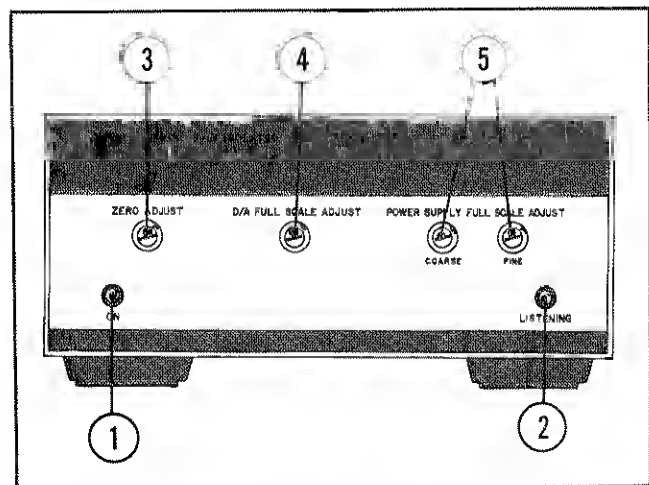

Figure 3-1. 59501A Front Panel
3-7 The 59501A front panel contains a power on indicator, a status indicator and four controls (screwdriver adjustments) as shown in Figure 3-1.
3-8 The power on (ON) indicator ① (Figure 3-1) lights and the 59501A's internal supply voltages (+15V, $\pm 15V$, V_{DD}) are present when the line cord is plugged-in.